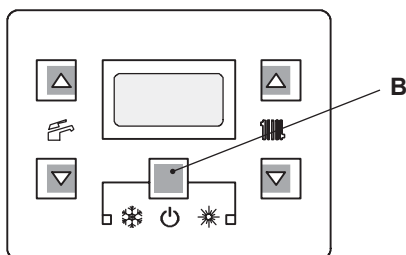

Figure 6.9
- 6 To memorize the setting press the key ("B" Figure 6.9).